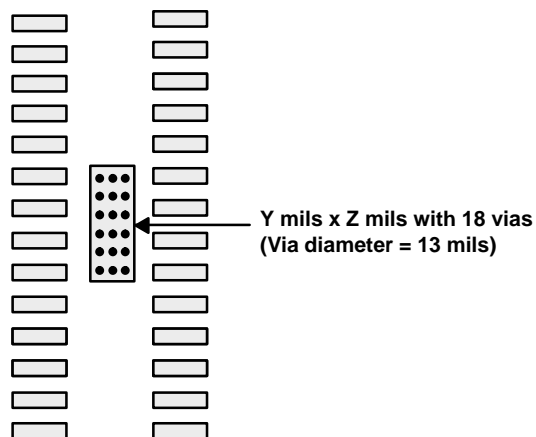

Figure 52. PowerPAD PCB Etch and Via Pattern
1. Prepare the PCB with a top side etch pattern as shown in Figure 52. There should be etching for the leads as well as etch for the thermal pad.